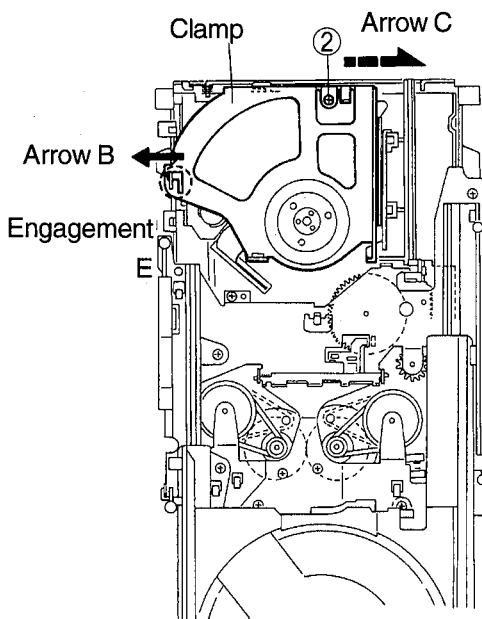

Fig.3
5.Remove the one screw 2 retaining the clamper (See Fig.3).
6.After moving the clamper in the arrow B direction and shifting it in the arrow C direction, take it out from the engagement section B(See Fig.3).